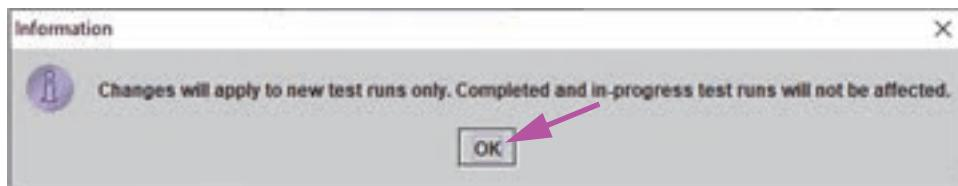

Figure 5-29. Changes Advisory Dialog
6. When all desired Displayed Results have been moved to the Masked Results column, click the **OK** button at the bottom of the Configure Results Masking overlay. An advisory dialog will appear stating that changes will apply to new test runs only (see Figure 5-29).